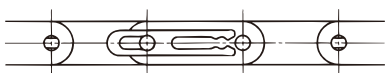

Fig.18 Slide Spring Clip Over Grooves in Pin Ends
- 1) Spring clips are used to secure the connecting link of chain sizes smaller than RF2060 and RS60. Insert the pins of the connecting link into the bushes of the free inner links, place the link plate over the pin ends, and slide the spring clip over the ends of the pins so that the slot and the fingers of the clip engage the grooves securely (Fig.18 and 19).